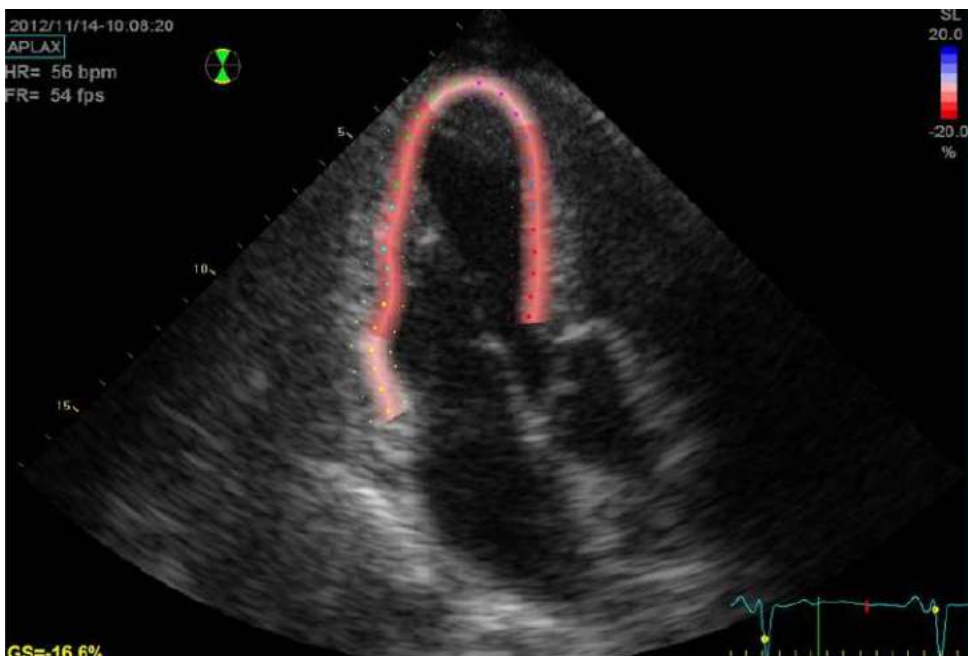

Figure 13-108. Parametric systolic strain APLAX view
The user is asked to confirm or adjust the AVC timing setting (see Figure 13-108 on *page 13-234*).
- Single screen (see Figure 13-108 on page 13-234) displaying a 2D image with strain parametric data.
If Auto-AVC is used as AVC timing calculation method when running Cardiac Strain (see Figure 13-108 on page 13-234), the strain values displayed in the Quad screen for the APLAX and 4 Chamber views may differ from the strain values obtained after the system has performed the final calculation from all three views.
- AVC measurement (either automatic or manual, see Figure 13-108 on page 13-234)